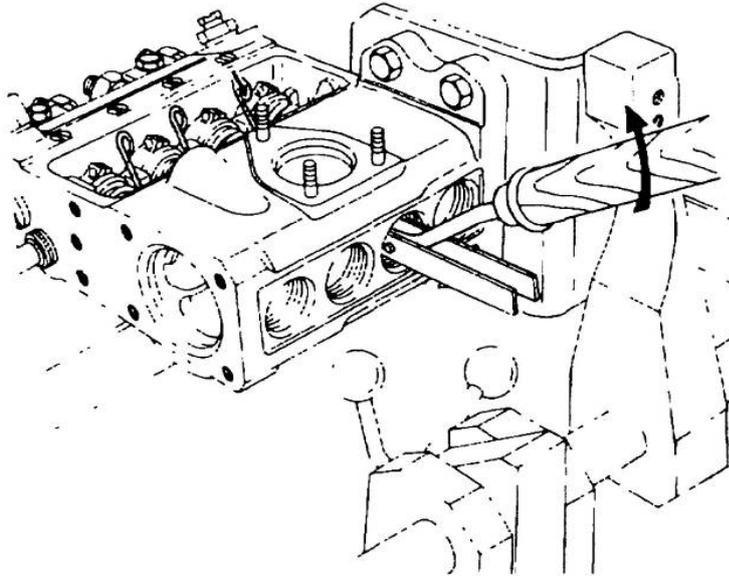

Figure 71 Removing the Tappet Holders
- t. Position the injection pump with the plunger return springs uppermost. Install the plunger return spring compression tool 157921-0120. Compress each spring in turn, remove the tappet holders and slowly release the pressure on the springs (Figure 71).